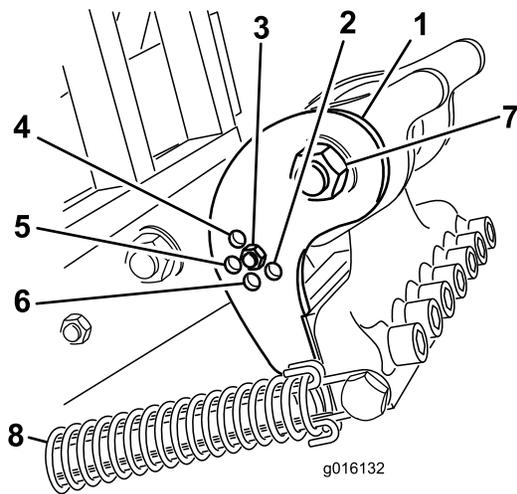

Figure 35
Set the camber bracket (Figure 35) to the correct position based on the length of tines to be used. The head stop is set to one of five predetermined positions by choosing the hole through which the adjustment rod is bolted. These holes are presets only; for instance, by using a 10 inch tine in the 12 inch position you may achieve a smoother finish; depending on the application.
3. Release the spring tension to the tine head (Figure 35).
- Remove the nut and bolt in the adjustment holes in the camber bracket (Figure 35).